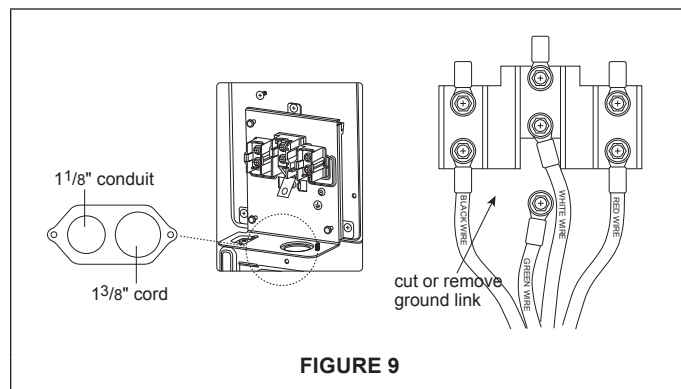

FIGURE 9
- 1 Remove and flip the conduit plate below the terminal block such that the smaller of the two holes is centered over the opening in the electrical enclosure. See Figure 9.